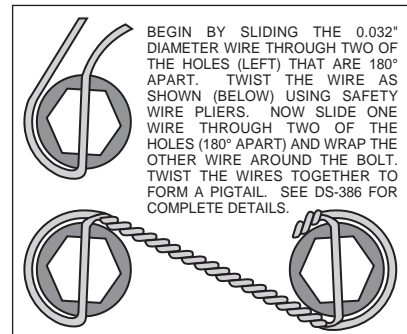

Figure 4. Safety Wire Diagram
- Install bolts (2) through caliper mounting bracket (1) into steering arm, finger tighten only. After you are positive of the bracket (1) alignment, remove the mounting bolts (2) one at a time and Apply red *Loctite*® 271 to bolt threads, then reinstall. Torque bolts (2) to 30 ft-lb. **NOTE:** Be sure the heads of the bracket (1) insert nuts are facing outward toward the wheel.
- Install wheel studs (3) into the hub (4). Torque to 77 ft-lb. **NOTE:** There are two (2) five lug patterns in the hub (5 x 4.50 and 5 x 4.75). Make sure of the correct hole pattern for the correct wheel application before installing studs into hub.
- Pack the large inner bearing cone (5) with high temperature disc brake bearing grease (available from your local auto parts store) and install into the backside of the hub (4). Install the grease seal (6) by pressing into the backside of the hub (4).
- Attach rotor adapter plate (7) to rotor (8) using bolts (9). Torque bolts (9) to 180 **in-lb**. Safety wire bolts (9) using standard 0.032 inch diameter stainless steel safety wire as shown in Figure 4. Please refer to Wilwood's data sheet DS-386 (available at www.wilwood.com/pdf/ds386.pdf) for complete safety wire installation instructions. **NOTE:** Dished side of adapter plate (7) should face hub (4). The machined tab side of the iron rotor (8) should face the adapter plate (7).
- Mount the adapter/rotor assembly (7 and 8) to the hub (4) using bolts (10). Torque bolts (10) to 22 ft-lb. Safety wire bolts (10).
- Pack the small outer bearing cone (11) with high temperature disc brake bearing grease and install into front of hub (4). Slide the hub/rotor assembly (4 and 8) with outer bearing cone (11) onto the spindle. Secure using stock spindle washer, adjusting nut and nut locking device. Adjust bearings per Original Equipment Manufacturer (OEM) specifications.
- Install the o-ring (12) and the dust cap (13) onto the hub (4). Friction created by the o-ring (12) on the dust cap (13) keeps it from unscrewing.
- **NOTE:** Please reference the caution statement at the beginning of the assembly instructions. With the bleed screws pointing up, mount the caliper (14) onto the caliper bracket (1) using lock washers (15) and bolts (16). Place two .063 thick flat washers (18) between the caliper (14) and the caliper mounting bracket (1) before sliding the mounting bolts (16) all the way into the caliper mounting bracket (1), finger tighten only. View the rotor (8) through the top opening of the caliper (14). The rotor (8) should be aligned in the center of the caliper (14). If not, adjust the caliper (14) by using 0.032 inch thick shims (17) placed between the caliper mounting bracket (1) and the caliper (14). Finger tighten and recheck alignment. Use as many shim washers (17) as necessary to achieve the correct alignment. Apply red *Loctite*® 271 to bolt threads (16) and torque to 30 ft-lb. Safety wire caliper bolts (16).
- Install the disc brake pads (18) and secure using cotter pin (19).